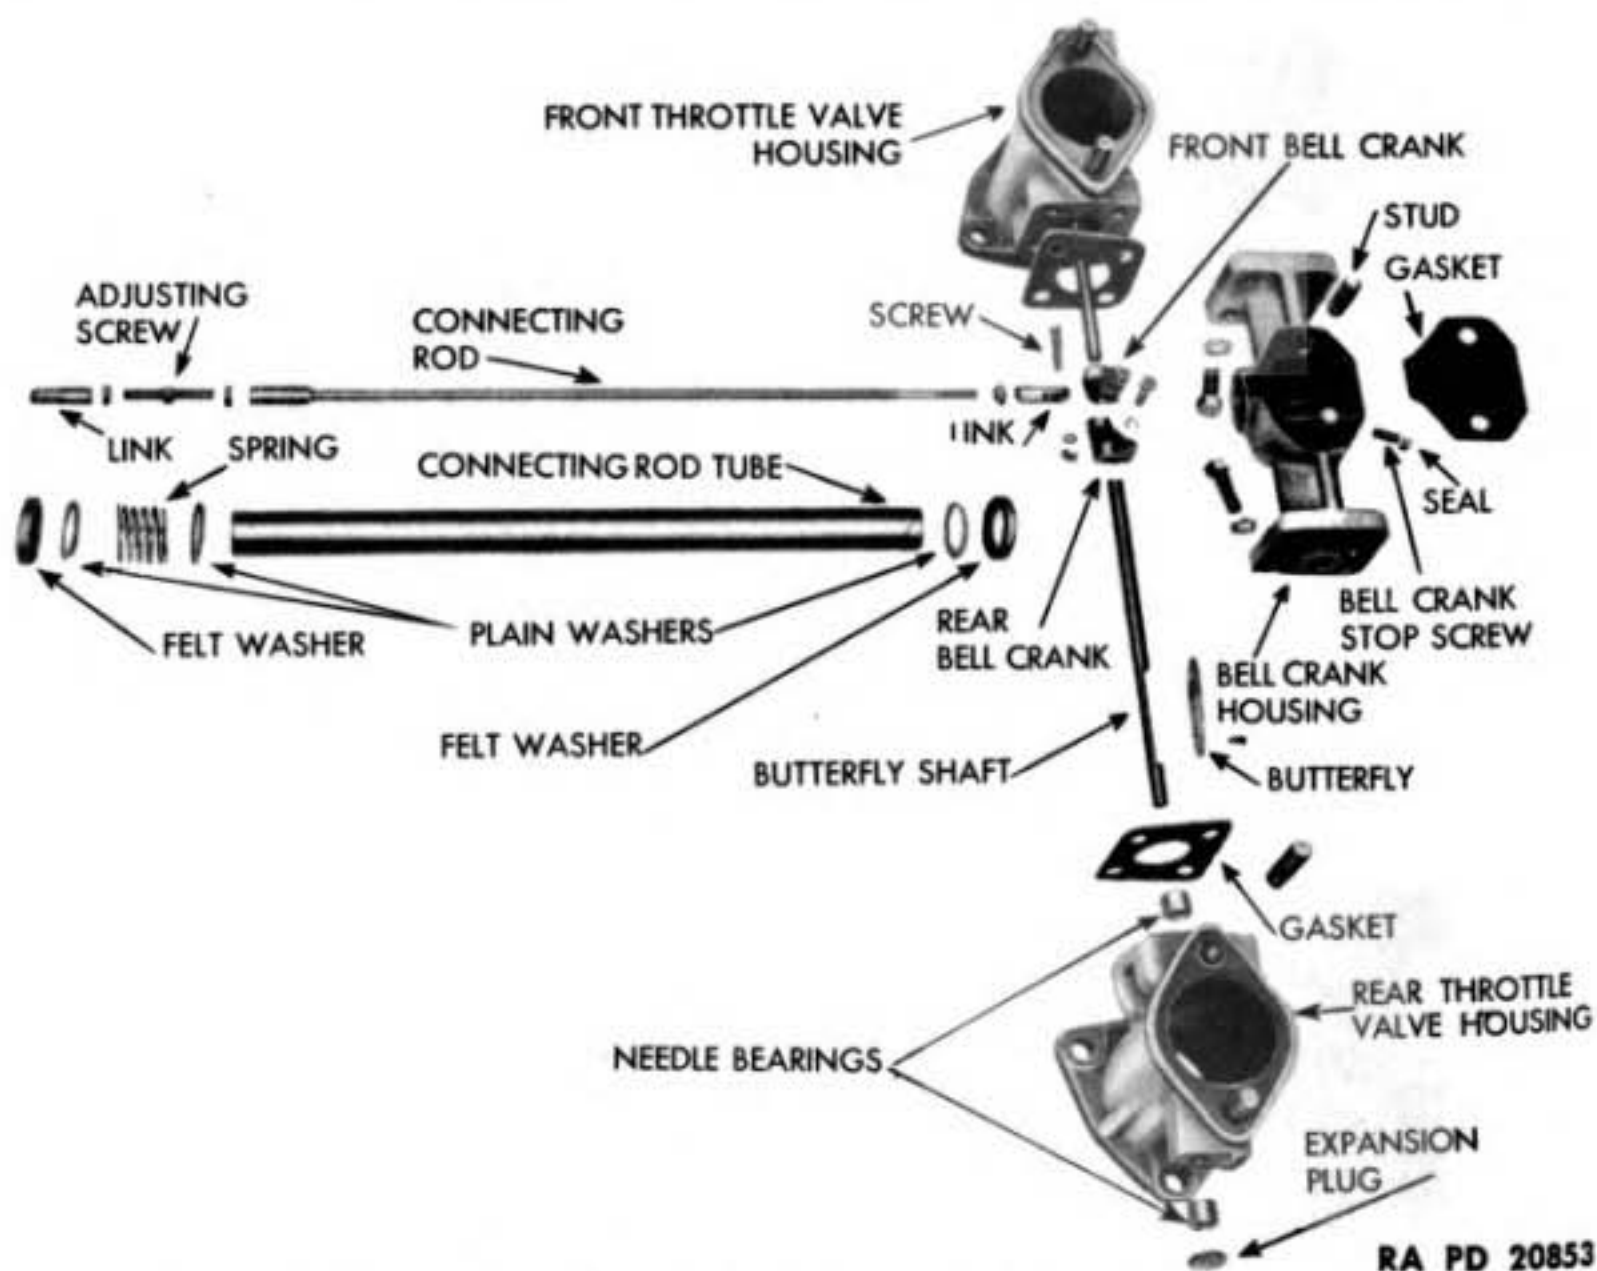

Figure 123 — Dual Throttle Valve Box Assembly Components
(1) **REMOVE CONNECTING ROD TUBE** (fig. 123). Pull connecting rod tube from bell crank housing and remove. Remove felt washers, plain washers, and spring from tube.
(2) **REMOVE THROTTLE VALVE HOUSINGS** (fig. 123). Loosen the locking cap screws in both bell cranks. Remove eight cap screws and lock washers attaching both throttle valve housings to bell crank housing, and remove both throttle valve housings.
(3) **REMOVE CONNECTING ROD AND BELL CRANKS** (fig. 123). Remove nut, lock washer and screw attaching connecting rod link to bell cranks. Remove connecting rod and bell cranks from bell crank housing.
(4) **REMOVE BUTTERFLY SHAFTS** (fig. 123). Remove two
(5) **REMOVE NEEDLE BEARINGS** (fig. 123). It is necessary to destroy the needle bearings to remove them. They should, therefore, be removed only if they must be replaced.
(3) **THROTTLE VALVE HOUSING** (fig. 123). Drive needle bearing out, using a bent rod. Needle bearing will be destroyed in this operation. Carefully drive new needle bearing in. Make sure rollers are free when bearing is installed.
(1) **INSTALL BUTTERFLY SHAFTS** (fig. 123). Insert shafts through needle bearings in throttle valve housings. Install butterflies. This is done by dropping the butterflies in place, and tapping with a screwdriver until they are seated properly. Install two screws and lock washers attaching each butterfly.
(2) **INSTALL THROTTLE VALVE HOUSINGS** (fig. 123). Use new gaskets on throttle valve housings, and set them in place against ends of bell crank housing. Place bell cranks on ends of butterfly shafts in bell crank housing, but do not tighten them on shafts. Install four cap screws and lock washers attaching each throttle valve housing to bell crank housing.
(3) **INSTALL CONNECTING ROD AND BELL CRANKS** (fig. 123). Insert connecting rod through hole in bell crank housing. After lining up bell cranks, install screw, nut, and lock washer attaching bell cranks to connecting rod link. Turn bell cranks so that screw attaching bell cranks to rod link is away from connecting rod hole in body. Turn bell cranks until they are approximately 33 degrees from perpendicular with valves closed. Lock the bell cranks in position with cap screws and lock washers.
(4) **INSTALL CONNECTING ROD TUBE** (fig. 123). Install plain washers, felt washers, and spring on connecting rod tube in the order shown in figure 123. Place tube over connecting rod and into bell crank housing.